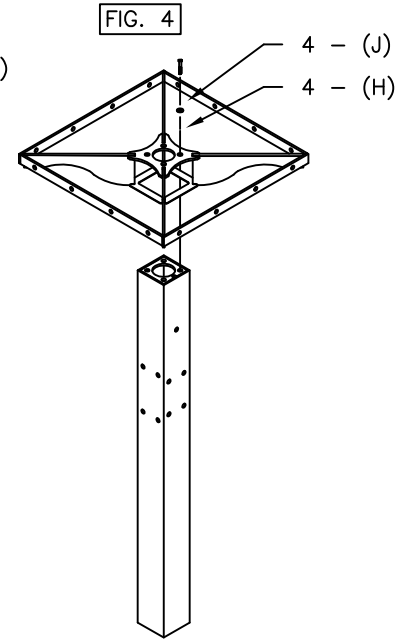

FIG. 5
Invert the (A-) top so it's upside down on a flat surface. Slip the game insert (A3) into the top. Attach the post assembly to the inside of the game insert, see FIG. 5. Use eight (F) and (I) using two (H) and one (P) per (F). Draw the fasteners to a snug fit with wrenches.